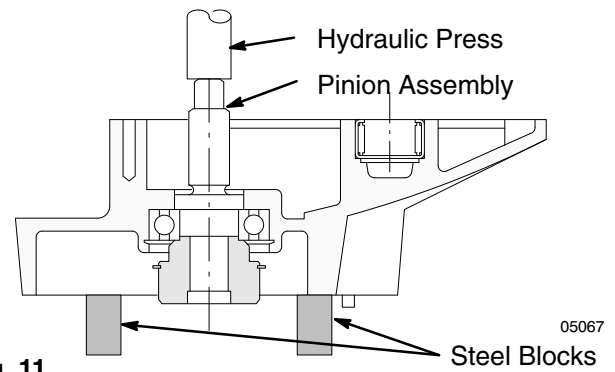

Fig. 11
2. **Using a hydraulic press**, push on the front of the shaft (11f**) to force the pinion shaft assembly out of the housing (11a). See Fig. 11.
3. **Using a hydraulic press**, support the housing on blocks. Push on the front of the shaft (11f**) to force the pinion shaft assembly out of the housing. See Fig. 11.